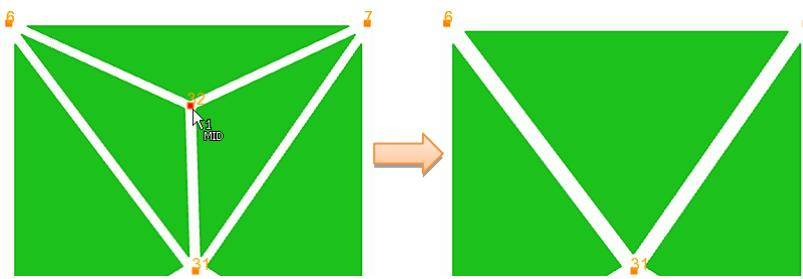

Figure 7-17 RemoveNode(32) merged 3 triangles into a triangle
- 2) When there are exactly 3 triangle elements connected to N and all can be merged to a triangle as in Figure 7-17